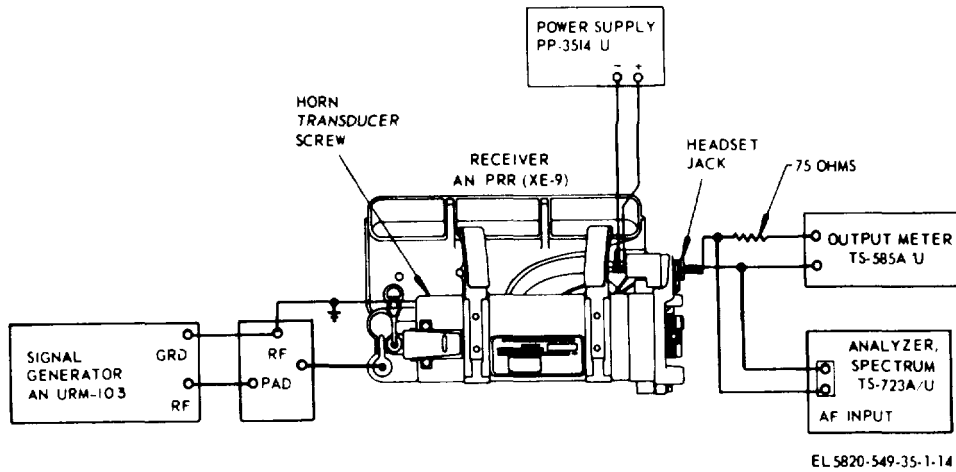

Figure 4-5. AN/PRR-9(XE-9) audio distortion test.
- Connect the test equipment as shown in figure 4-5.